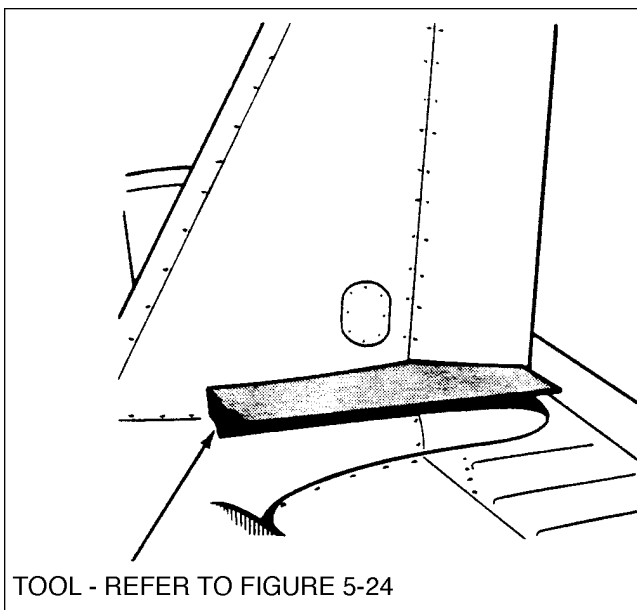

Figure 5-17. Rudder Rigging Tool
2. A rigging tool may be fabricated from dimensions given in Figure 5-24 to aid in rudder rigging. With the rudder against its stop, place the rigging tool against the side of the rudder and vertical stabilizer as shown in Figure 5-17. Be sure the tool is not contacting any rivets. If no gaps exist between the rigging tool and the surface's of the rudder and stabilizer the stop for that direction of travel is correct as required in Table V-II.